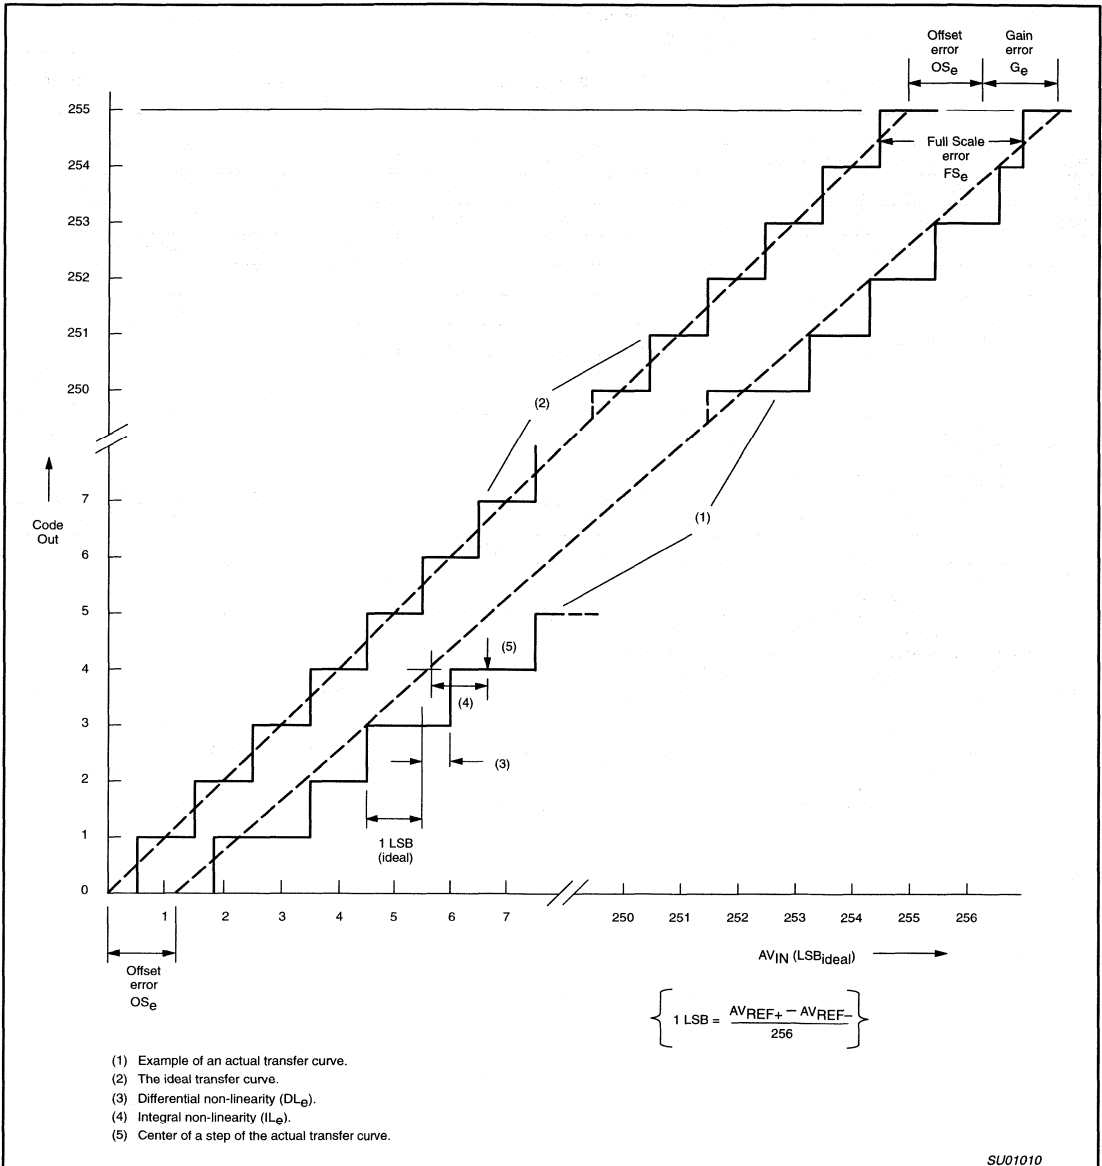

Figure 7. ADC Conversion Characteristic
- The differential non-linearity (DLe) is the difference between the actual step width and the ideal step width. See Figure 7.
- The integral non-linearity (ILe) is the peak difference between the center of the steps of the actual and the ideal transfer curve after appropriate adjustment of gain and offset errors. See Figure 7.
- The offset error (OSe) is the absolute difference between the straight line which fits the actual transfer curve (after removing gain error), and the straight line which fits the ideal transfer curve. See Figure 7.
- The gain error (Ge) is the relative difference in percent between the straight line fitting the actual transfer curve (after removing offset error), and the straight line which fits the ideal transfer curve. Gain error is constant at every point on the transfer curve. See Figure 7.